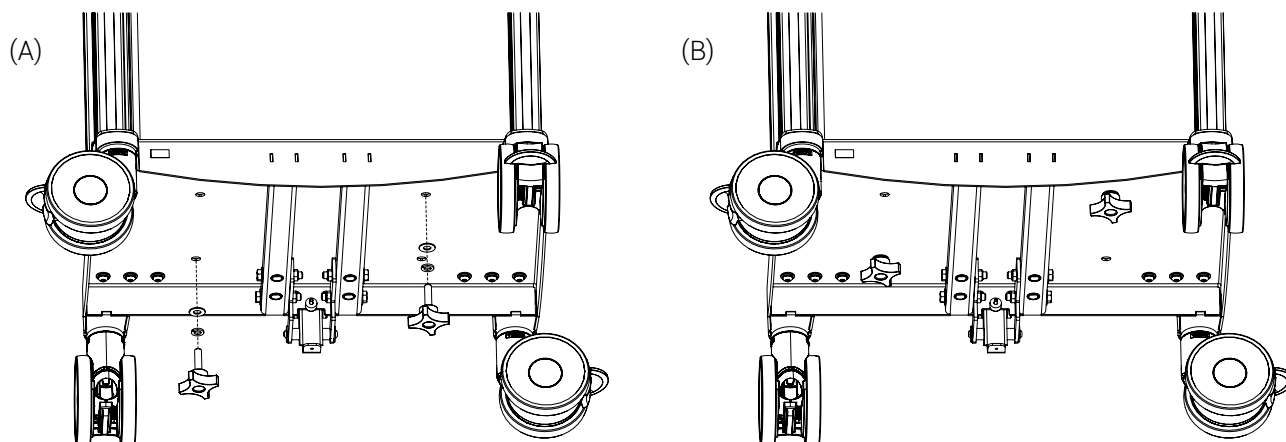

Figure 37: UPS installed (bottom of cart illustrated)
6. Secure the unit on the UPS shelf by tightening the two (2) tension knobs, two (2) lock washers and two (2) washers diagonally, under the transport cart (Figure 37).